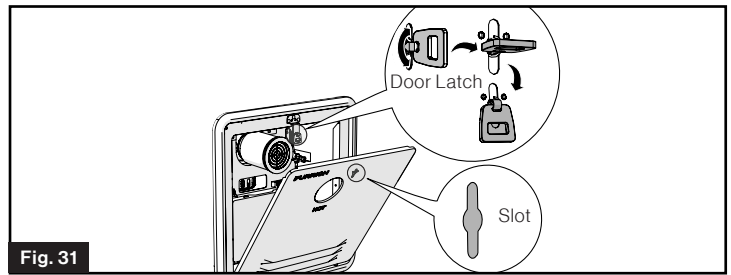

Fig. 31
9. Align the latch on the flange with the slot on the door, then push the door and rotate the latch to lock the door into place. (Fig. 31)
- Step ①: Pull and rotate the lever 90° to lock the latch.
- Step ②: Turn down the folding latch to lock.